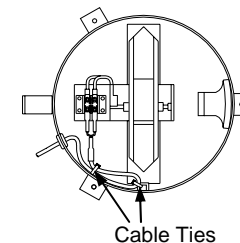

Figure 2: Service Loop
4. From outside of housing, feed the spade terminal end of cable through the rubber grommet and reconnect to terminal block. The polarity of the input connection is not important. **Make sure any excess cable inside of housing is secured so that it does not interfere with the operation of the tipping bucket mechanism!** If possible, create service loop for cable by using two small cable ties to loop and secure cable to cable tie mount (see Figure 2).